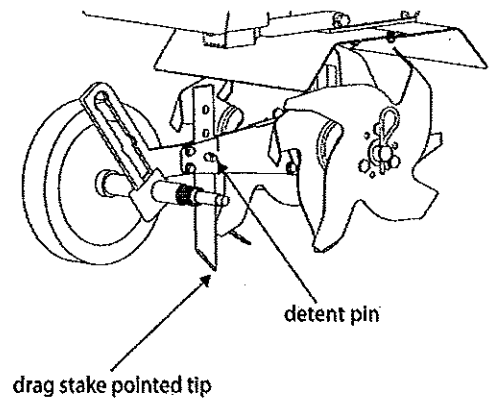

Figure 2
4. The drag stake is shipped with point facing upwards. Before using, remove detent pin and turn the drag stake around so the point is directed in the downward position facing towards the tines. Re-insert detent pin. **SEE FIGURE 2**.